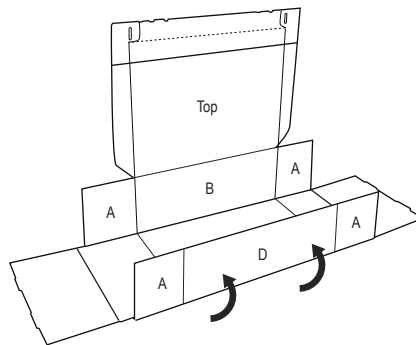

Figure 2
3. Fold in flaps (A). (See Figure 2)